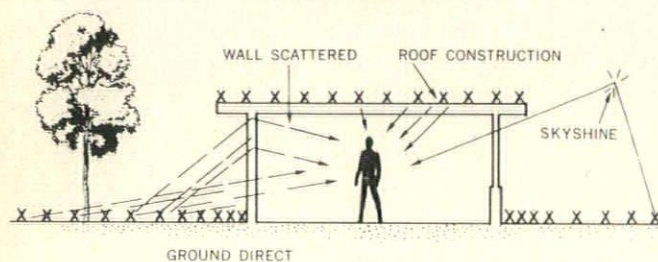

Figure 9
Even in shelter some gamma radiation can reach an individual in an enclosure from several sources (Figure 9)—(1) the roof contribution refers to radiation from fallout deposited on the roof and (2) the ground contribution refers to all similar radiation originating from fallout particles on the ground. The ground contribution is further subdivided into ground direct, wall scatter and skyshine components. The latter is the effect caused by radiation from fallout on the ground as it is deflected by the air molecules into a structure.